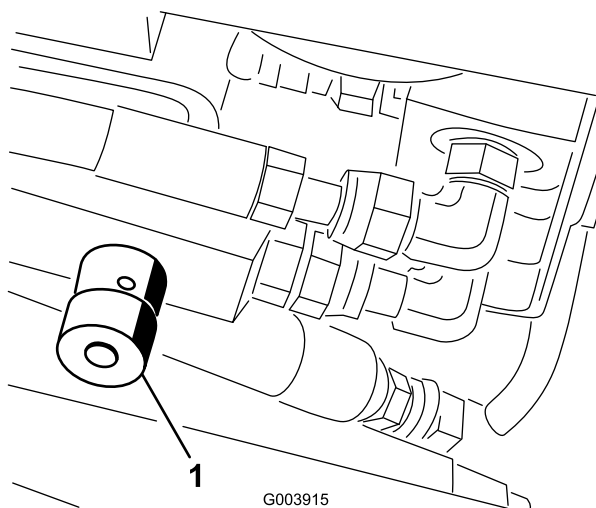

Figure 76
1. Raise the hood and locate the valve on left, rear side of the machine (Figure 76).